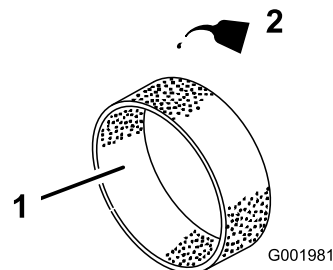

Figure 44
4. Put one or two ounces of oil on the element (Figure 44).